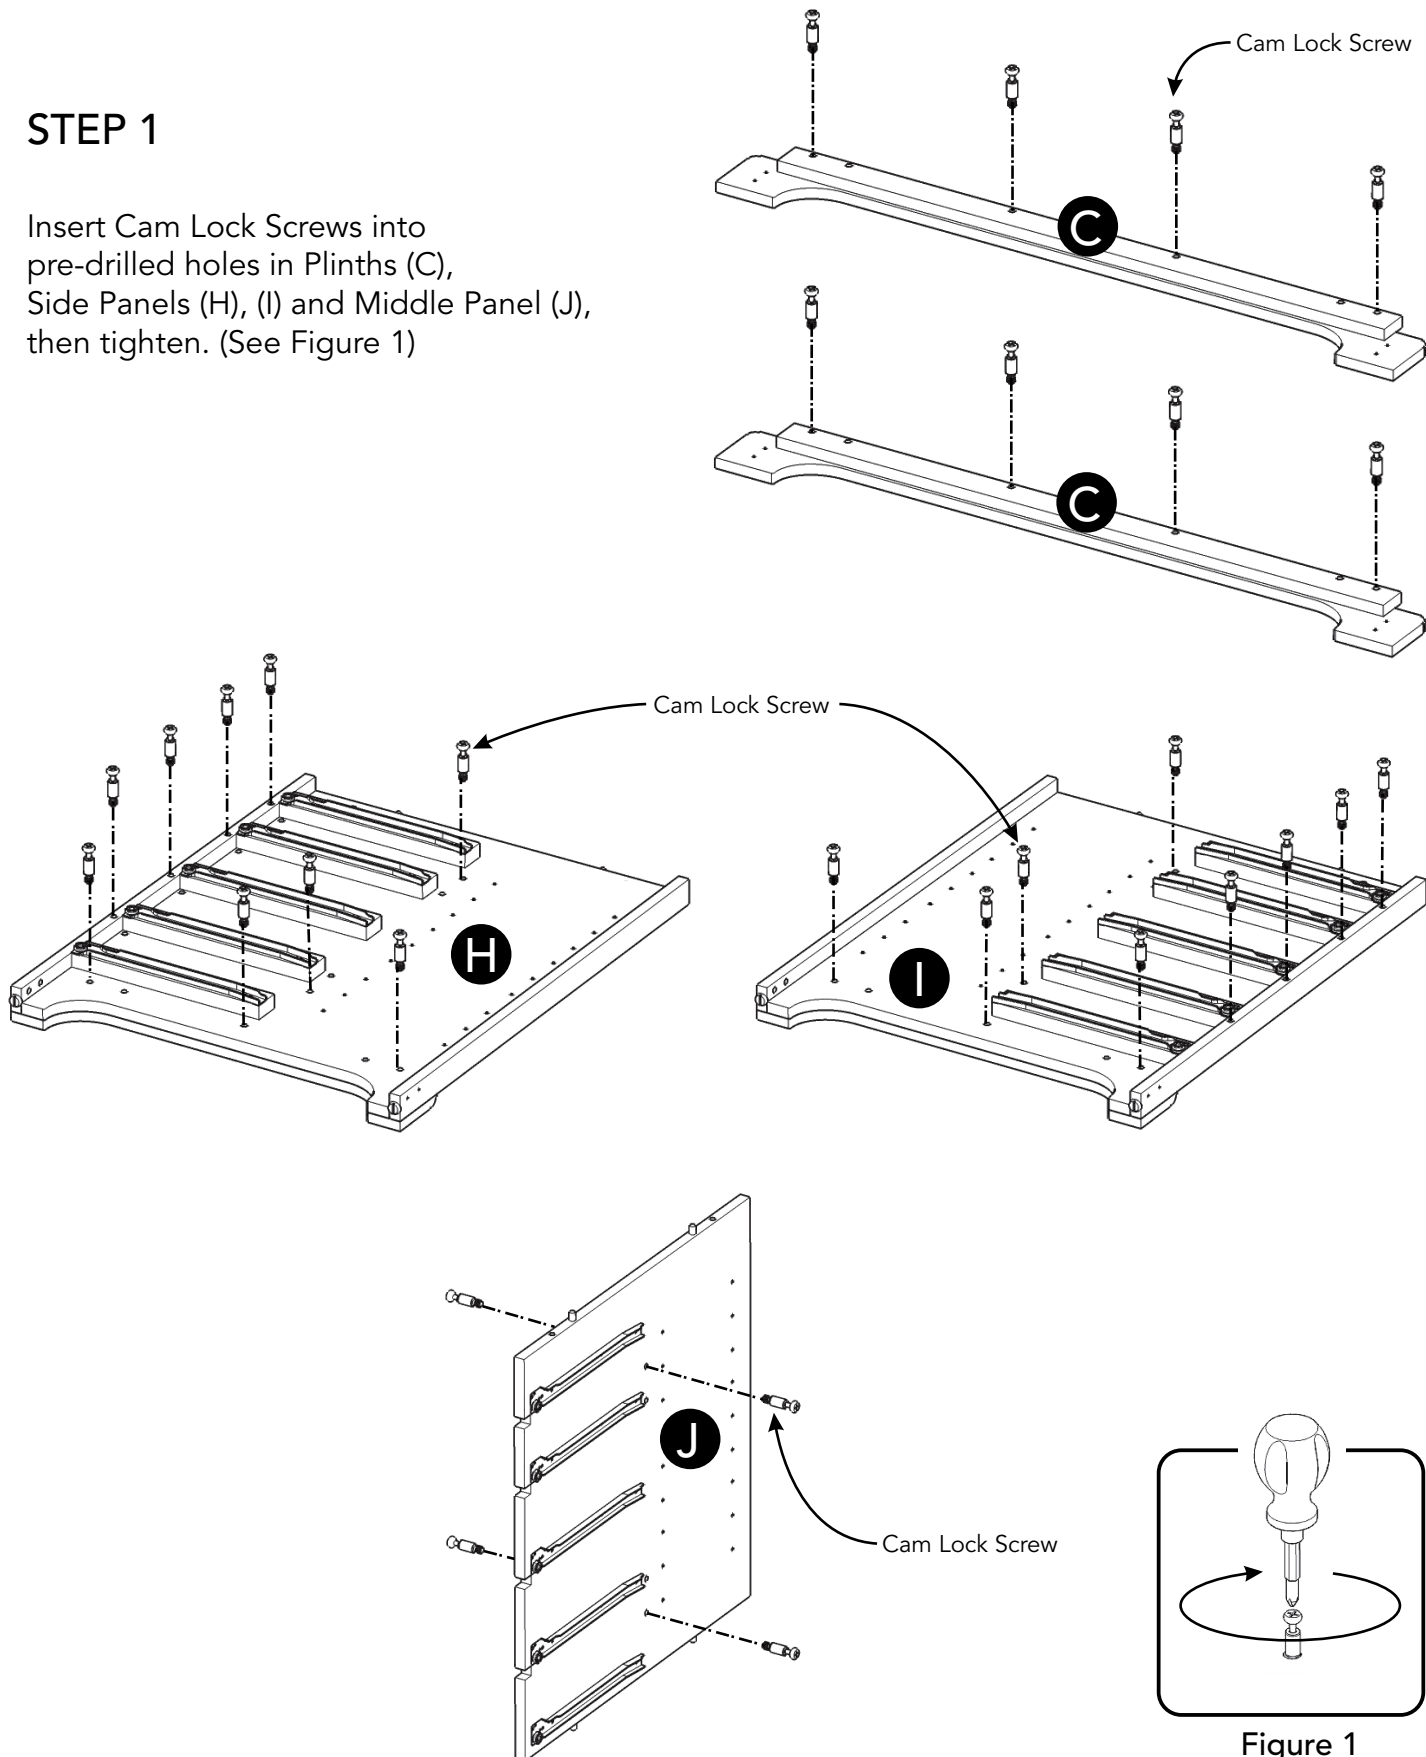

Figure 1
Insert Cam Lock Screws into pre-drilled holes in Plinths (C), Side Panels (H), (I) and Middle Panel (J), then tighten. (See Figure 1)